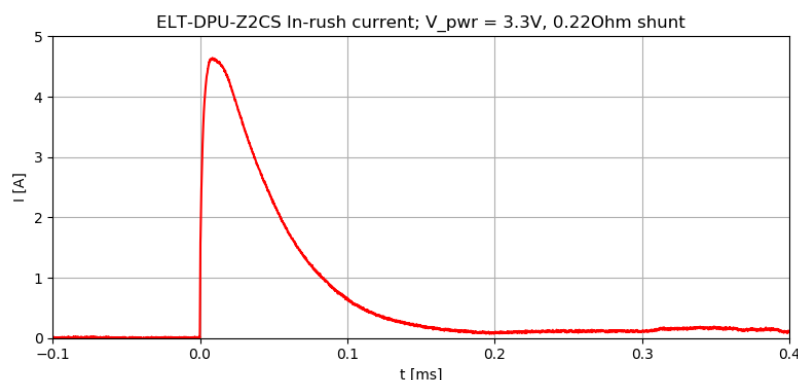

Figure 2: In-rush current
5.1.2.2 In-rush current Measured in-rush current when connected to hard 3.3V power supply over 0.22Ω shunt resistance is plotted in Figure 2. The peak value of in-rush current is 4.6A, the total charge of the transient is 264μC.